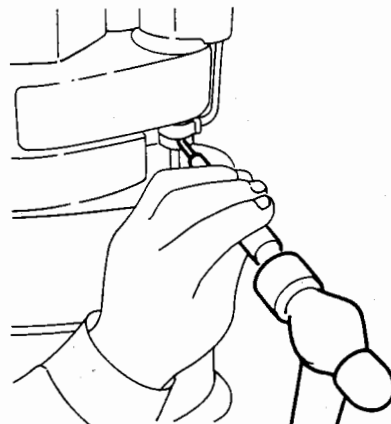

Fig.13.1
1. Remove the spring pin from the upper portion of the shift rod joint by using the special tool. (Fig.13.1)